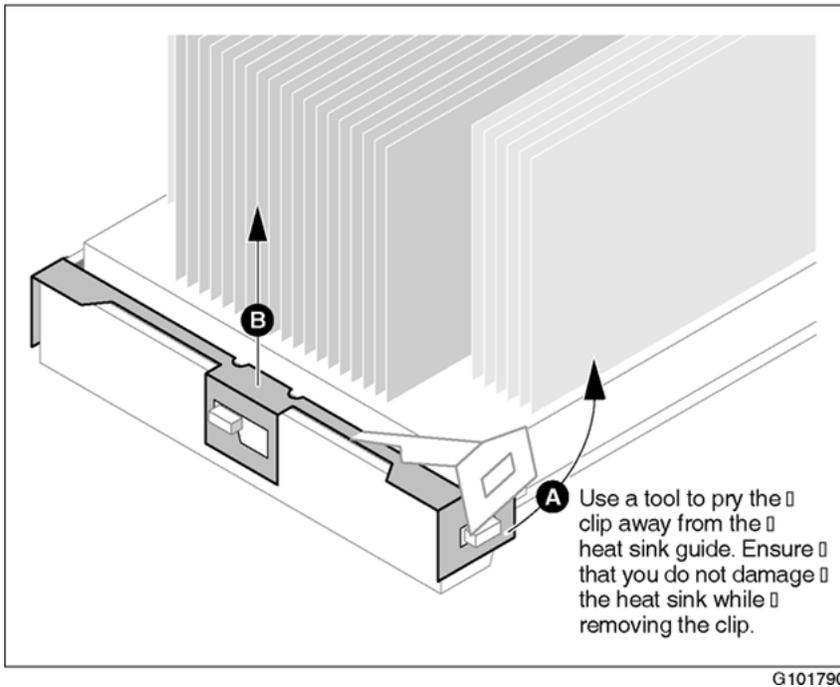

Figure 31: Heat sink attached to motherboard
4. Remove the clips that secure the heat sink to the motherboard, as shown in Figure 31: Heat sink attached to motherboard on page 153.